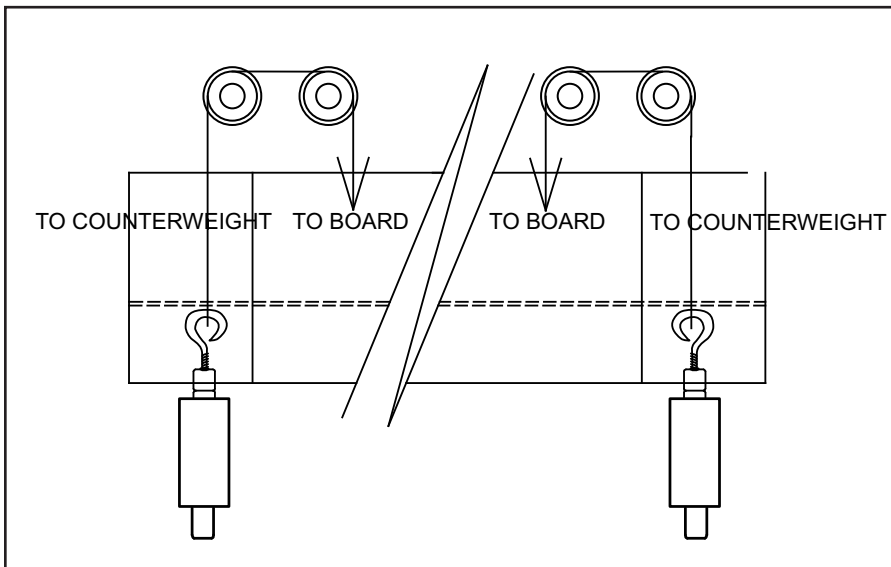

Figure 5
- 4)** Thread cable around pulleys and motor/pulley and attach counterbalance to keep tight (See Figure 5).